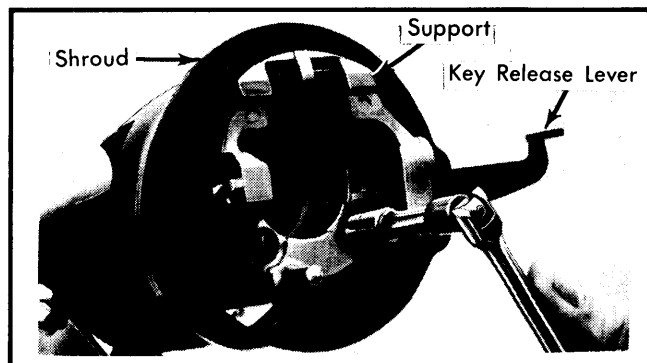

Fig. 18 Removing Support from Housing
14) Remove shroud using twisting-pulling motion. Remove key release lever and lever spring from shroud. Tip lever forward and lift up to remove. See Fig. 18.